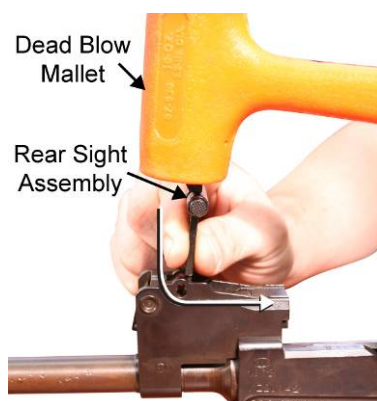

Figure 10. Dislodging and Removing the Rear Sight Assembly Using a Dead Blow Mallet.
- b. While pulling the bottom of the rear sight assembly rearward, use a dead blow mallet to tap on the top of the rear sight assembly to dislodge it. Refer to Figure 10.